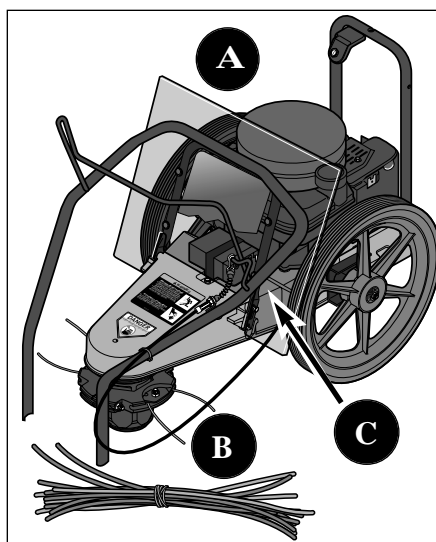

Figure 2-1 (electric start model shown).
- Trimmer/Mower Assembly (A, Fig. 2-1)
- Extra Trimmer Line - 6 pieces of green, heavy-duty .130" diameter and 6 pieces of red, extra-heavy-duty .155" diameter (B, Fig. 2-1).
- Battery (on unit, C, Figure 2-1).